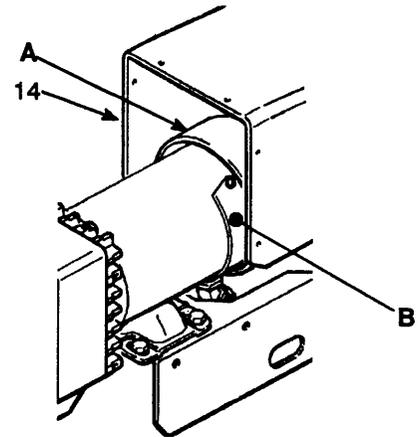

Fig 7
Remove the pressure control cover. Remove the motor shield (14). Remove the fan cover (A) and the inspection covers (B). See Fig 7.